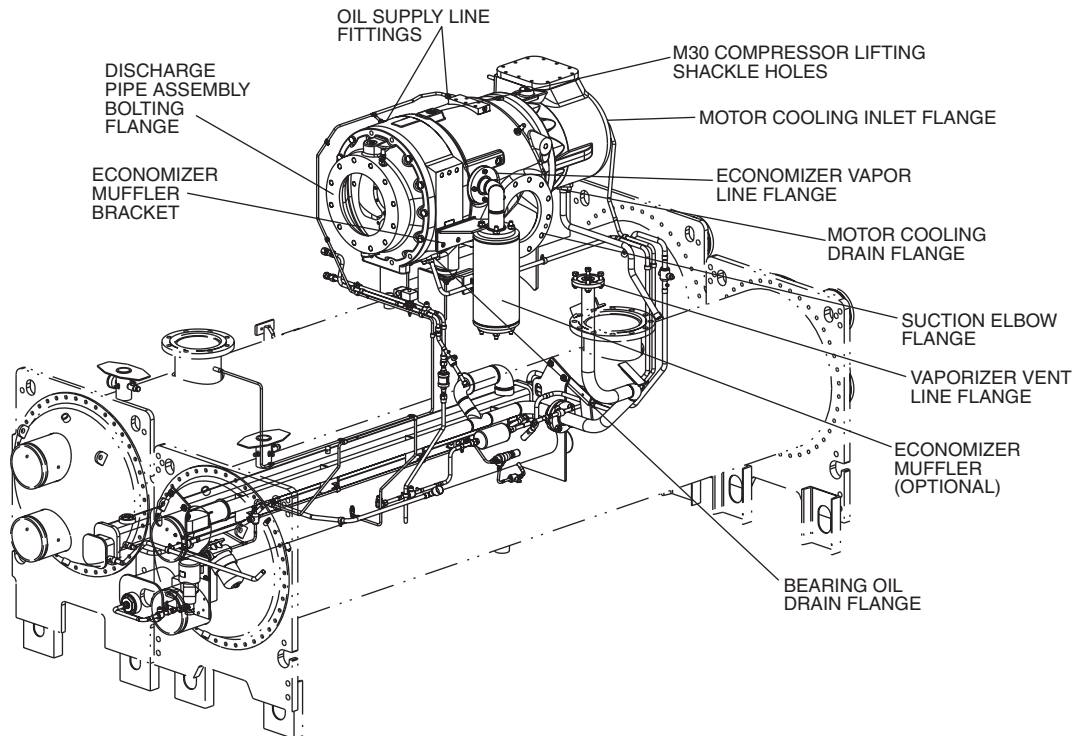
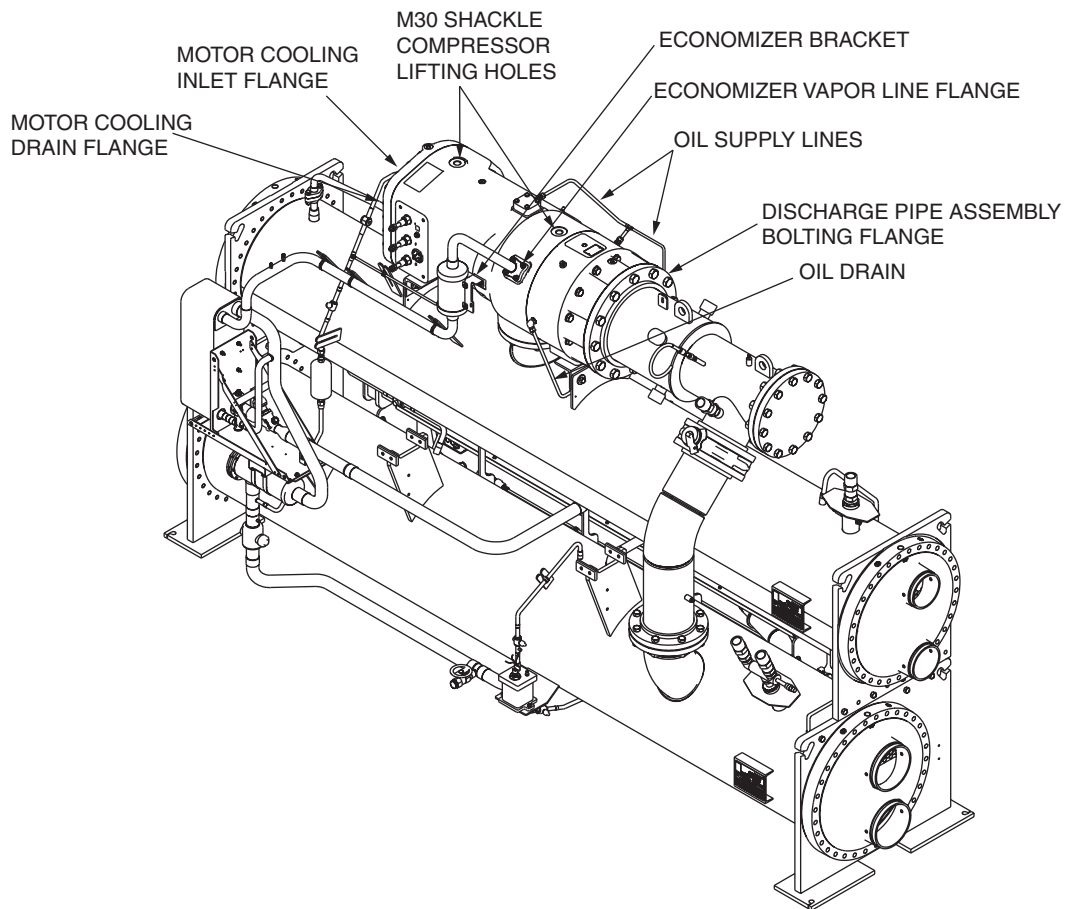

Fig. 32 — Compressor Removal, Q and R Compressors (Unit with R Compressor Shown)
Fig. 33 — Compressor Removal, P Compressor
1. Disconnect the oil supply line in 2 places (Fig. 32 or 33). Cap the oil lines and fittings.
2. Disconnect the motor cooling inlet flange, the motor cooling drain flange, optional economizer vapor line flange, and bearing oil drain flange (Fig. 32 and Fig. 33). Remove the economizer muffler bracket.
5. Carefully remove the perforated insulation cutouts that cover the compressor lifting points. See Fig. 32 and 33. Replace the lifting shackle thread protector after the compressor is re-installed to prevent insulation adhesive from fouling the threads.
6. Rig the compressor with lifting eyelets installed in the two M30 threaded holes provided in the top of the compressor housing (Fig. 32 and 33). Use only M30 forged eye bolts or M30 hoist rings with a sufficient working load limit to safely lift the compressor. The rubber vibration isolators may pull out of the compressor mounting bracket when the compressor is lifted off of the condenser. Applying leak detection soap solution to the outside of the vibration isolators will make it easier to press the isolators back into position.